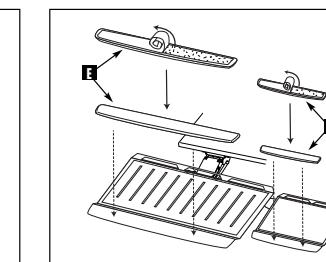

Figure 9
The Mouse Wrist Rest (H) should be placed at the rounded front end of the tray, and can be mounted by removing the backing from the bottom of the rest and pressing it firmly into position. The Mouse Pad (I) should be placed at the rear of the unit (Figure 9 & 10).